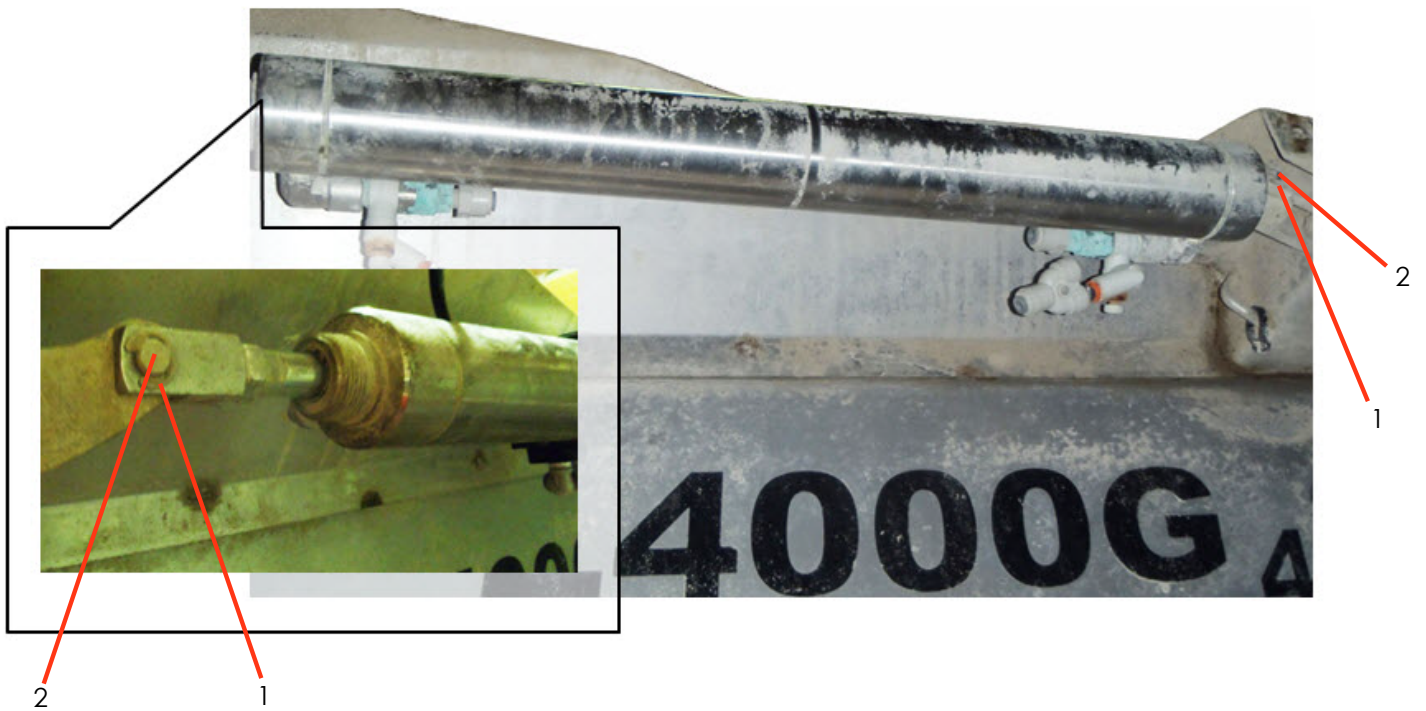

Figure 4
4. Figure 4 - Remove e-clip (1) and clevis pin (2) from each end of cylinder. Remove cylinder. Set clevis pins and e-clips aside for later use.